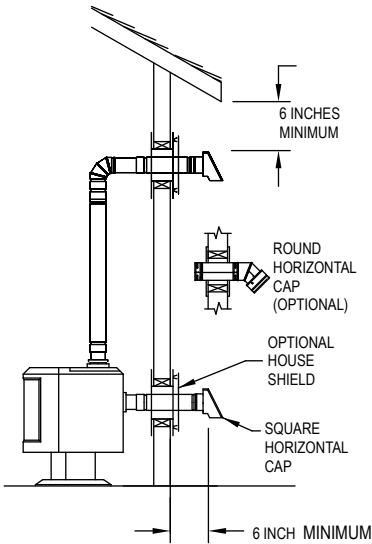

Figure 6
5. If the flue exit is on back of the stove, and a horizontal through-the-wall installation is desired (**Figure 6**):
- B. Connect the Pipe Adapter to back of stove and attach sufficient pipe to penetrate Wall Thimble and extend at least 6" beyond the exterior wall. You may install the optional House Shield as shown in **Figure 6**. The House Shield is used to protect the exterior wall from vent discharge. Attach a Square or Round Horizontal Cap. The Round Horizontal Cap can be swiveled to be directed away from nearby objects (fence, plants, etc.), but must still be pointing in a generally downward direction. Important: Horizontal Caps must be pointed in a generally downward direction to insure rain and snow do not enter the cap, and cause potential damage to the appliance. Either vent Cap should be at least 6" from the wall.